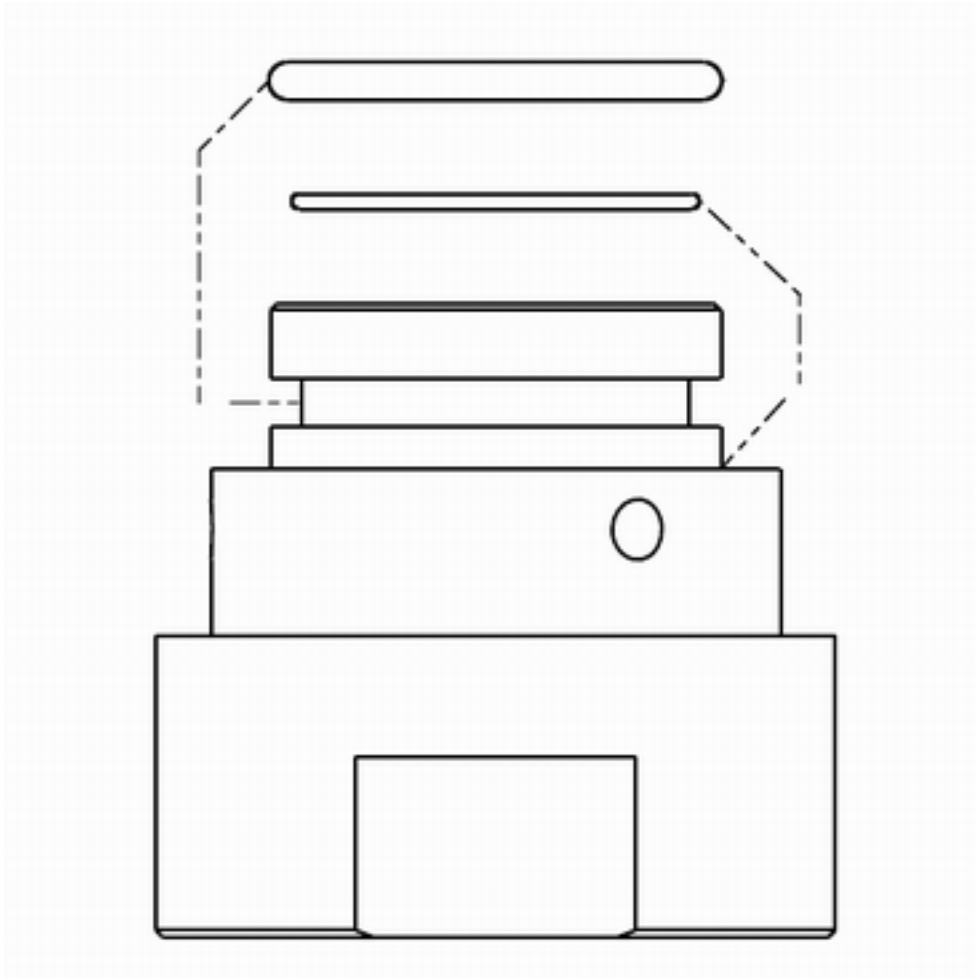

Fig. 48: Position of O-rings
- 1.** → Carefully install the O-ring (seal) onto the process connection (*Fig. 46/1*), so that it rests in the upper O-ring groove of the process connection *Fig. 48/1*). When doing so, be careful not to overstretch the O-ring.
- 2.** Carefully seat the O-ring (Glass buffer) onto the process connection (*Fig. 47/1*), so that it is properly seated on the lower portion of the process connection (*Fig. 48/2*). When doing so, be careful not to overstretch the O-ring.